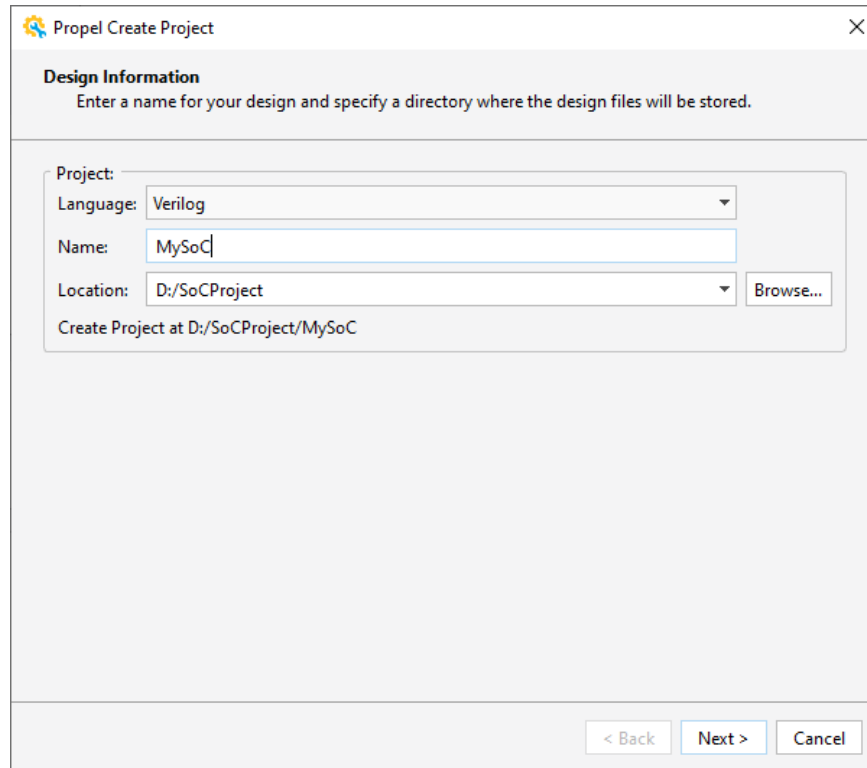

Figure 6.3. Design Information Settings
- Choose **File > New SoC Design**. Set **Design Information** or leave it at the default (Figure 6.3).